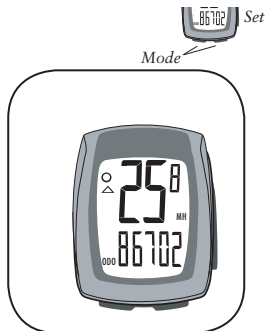

Figure 12- ODO screen
1. Cycle **Mode** to ODO (Figure 12).